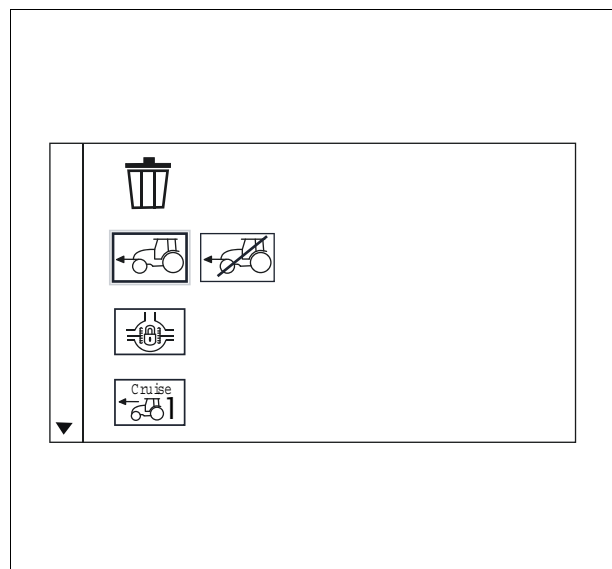

Fig. 11.
1. Bring up the program modification view *fig. 11*.